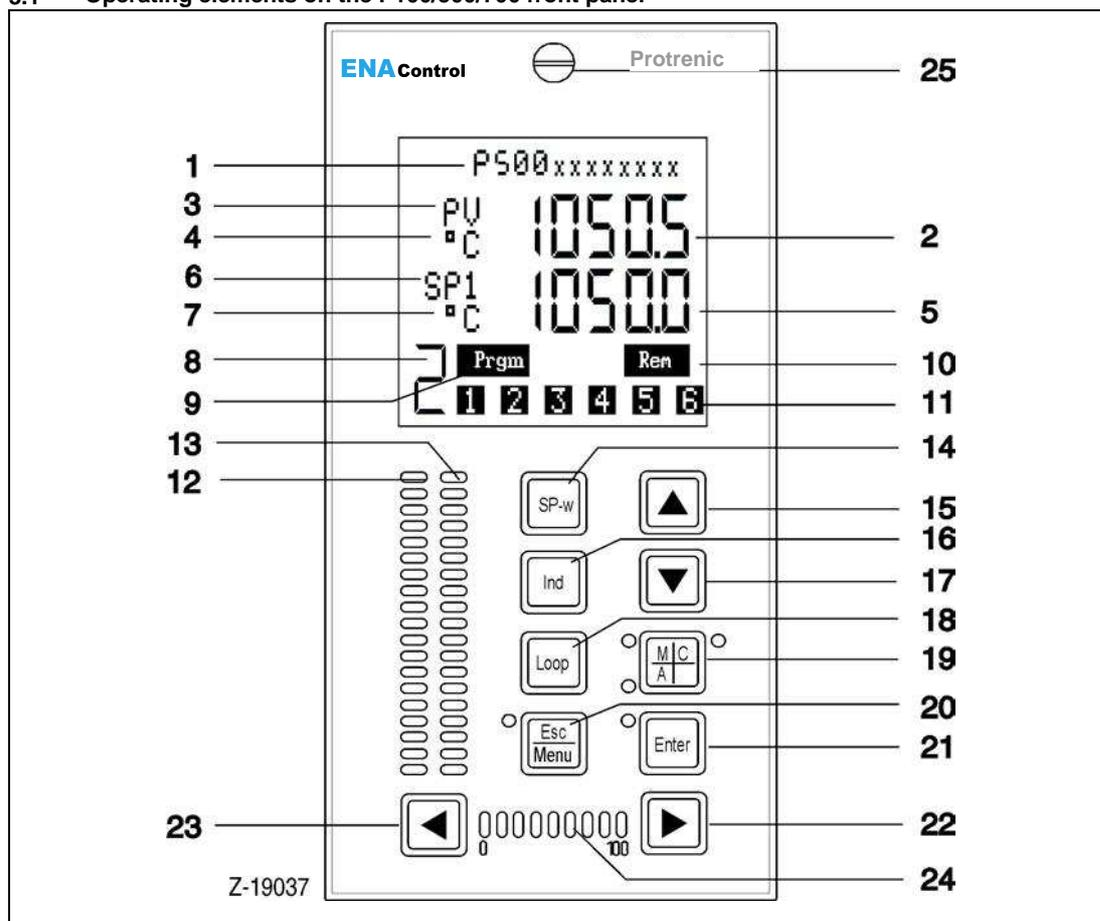

Fig. 3-1 Front panel P100/500/700 (Protrenic 100/500/700)
- /8/ Reference to numbers in Fig. 3-1